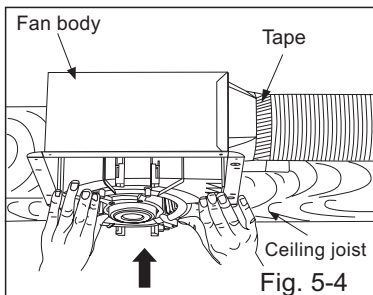

Fig. 5-4
7. Insert the blower into the fan body. (Fig.5-4)